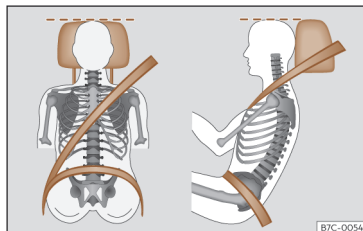

Fig. 17 Correct belt web and headrest positions
- Adjust the head restraint so that its upper edge is, as far as possible, at the same level as the top of your head, as close to eye level as possible¹⁾ >>> page 127. Keep the back of your neck as close as possible to the headrest >>> Fig. 17.
- Adjust the seat lengthwise so that you can press the pedals fully down with your knees slightly bent and there is a distance between the knee area and the instrument cluster of at least 10 cm (4 inches) >>> Fig. 17.